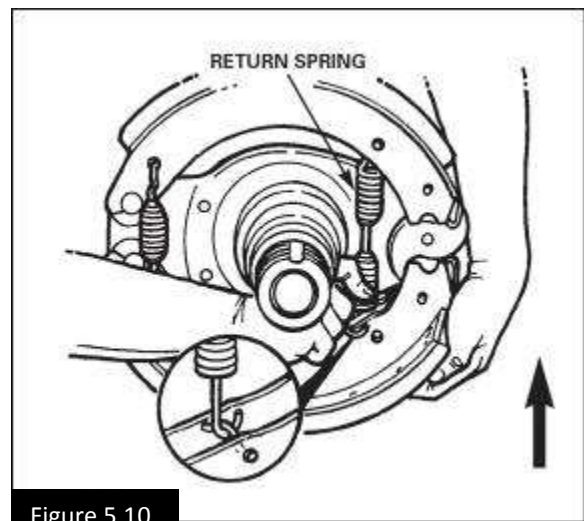

Figure 5.10
17. Rotate the lower brake shoe FORWARD to place tension on the retaining springs and install a new return spring. Figure 5.10.